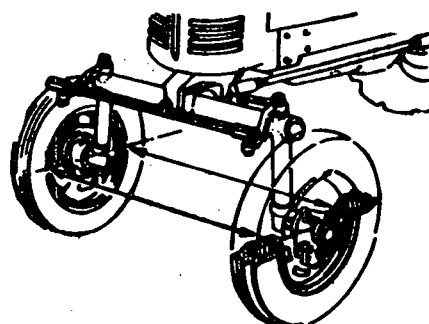

Fig. 3
- a) Place the toe gauge. Measure the distance between the front tyres (Fig. 3).